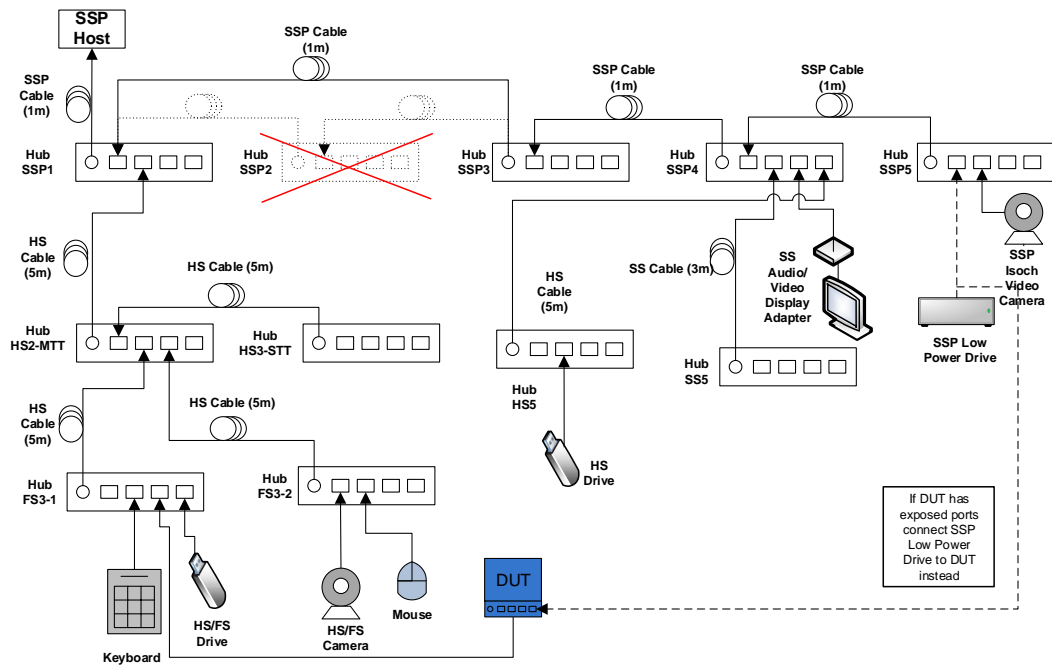
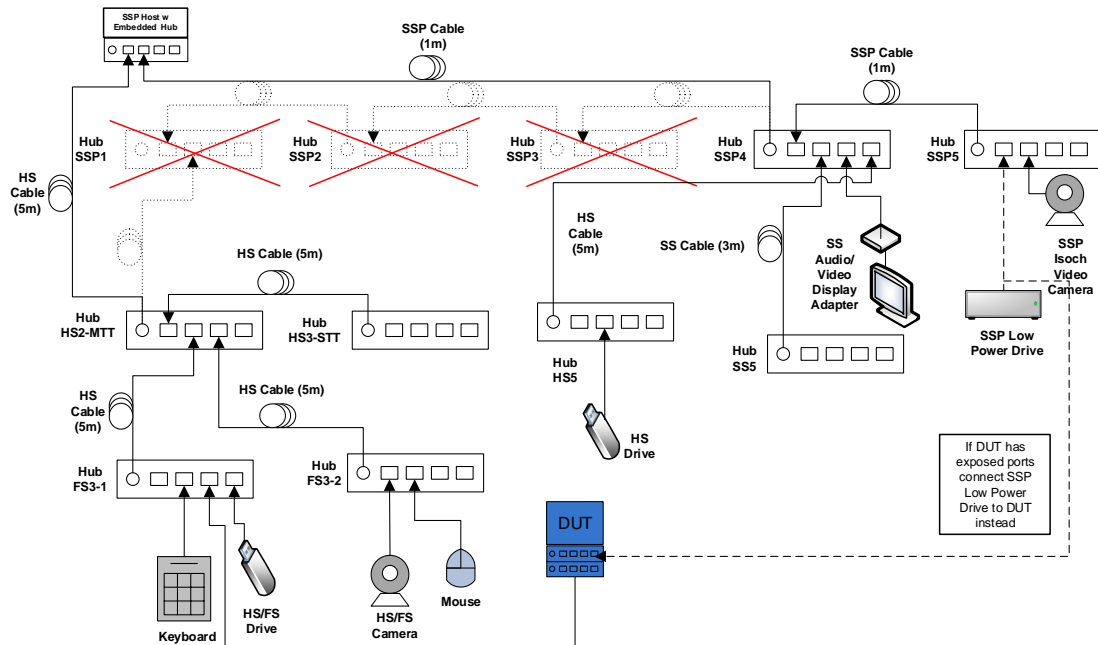

Figure 6-13: Interop Tree with Compound Device - Topology Change 2
Figure 6-16: Interop Tree with Compound Device (Dual-Hub) - Embedded Hub - Topology Change 2
- While operating the devices, attach the Device Under Test to port 3 on Hub FS3-1 as shown below in Figure 6-13 through Figure 6-16.